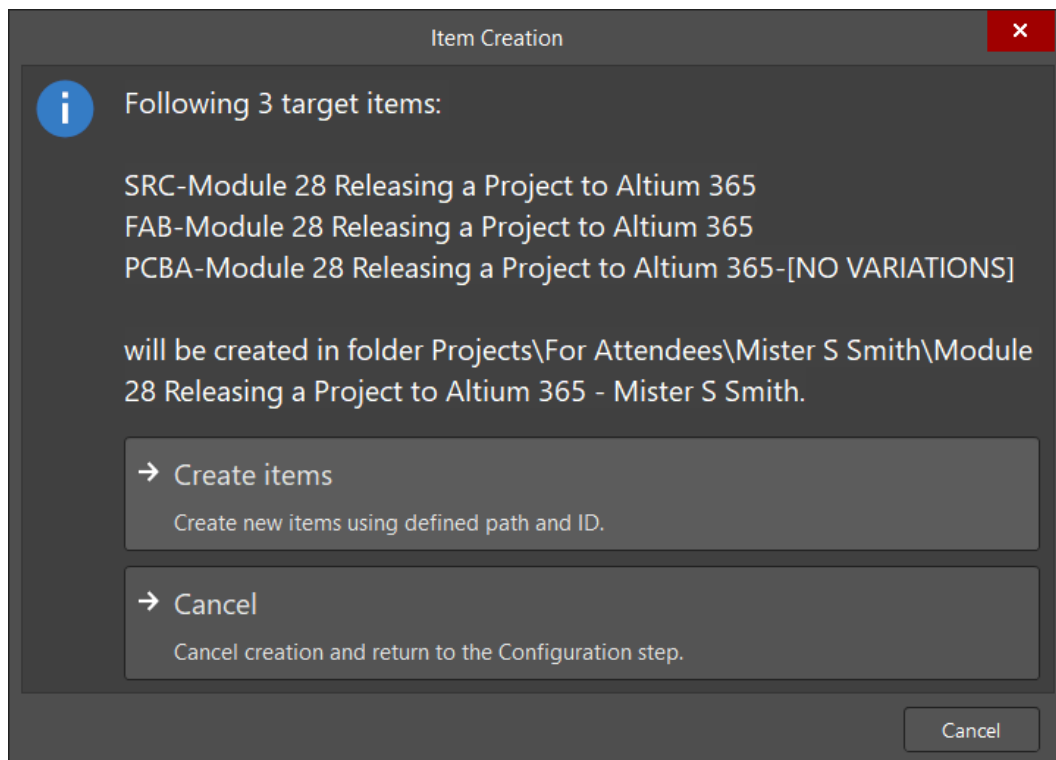

Figure 3. Item creation for release process
13. If the Tools is ready, it will show you a dialog similar to the dialog you see at Figure 3. Select **Create Item** if you are ready to create the Items.